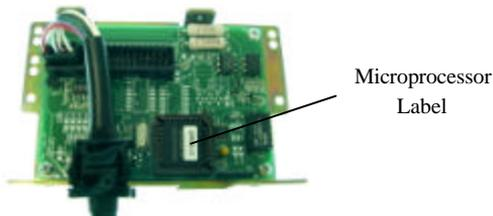

Figure 16. Location of Microprocessor Label
2. The Currency Denominations label, which specifies DIP-Switch settings of currency denominations for **Aurora** may appear on cover. The setting on label must be used instead of values in Program Specification Sheet. This label appears for programs ending with **-1** (e.g., 350PD013-**1**) for the last digit on Microprocessor Label (**Figure 16**).
6. Examine program number on Microprocessor Label (**Figure 16**), and then make the necessary settings to DIP Switches on **Aurora** as indicated in Program Specification Sheet.